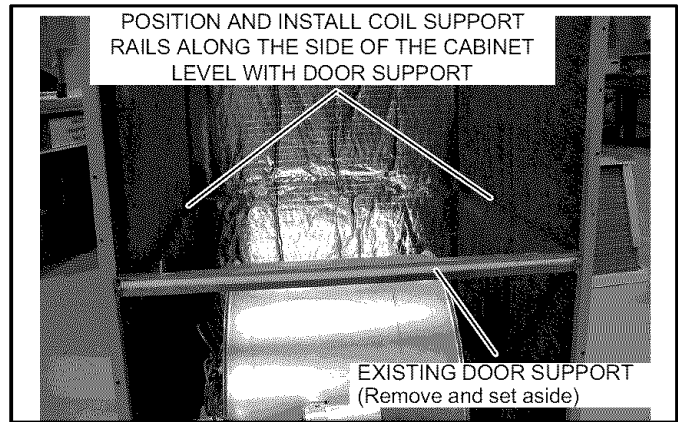

Figure 3. Coil Support Rail Location
- Remove the door support from the unit and set aside for re-installation (see figure 3).
- Three pairs (left and right) of coil support rails are provided. Use the information given in table 1 to select the proper rails for the application. Position and install a coil support rail on each side of the cabinet. The rail should be installed level with with the door support which was removed (see figure 3).